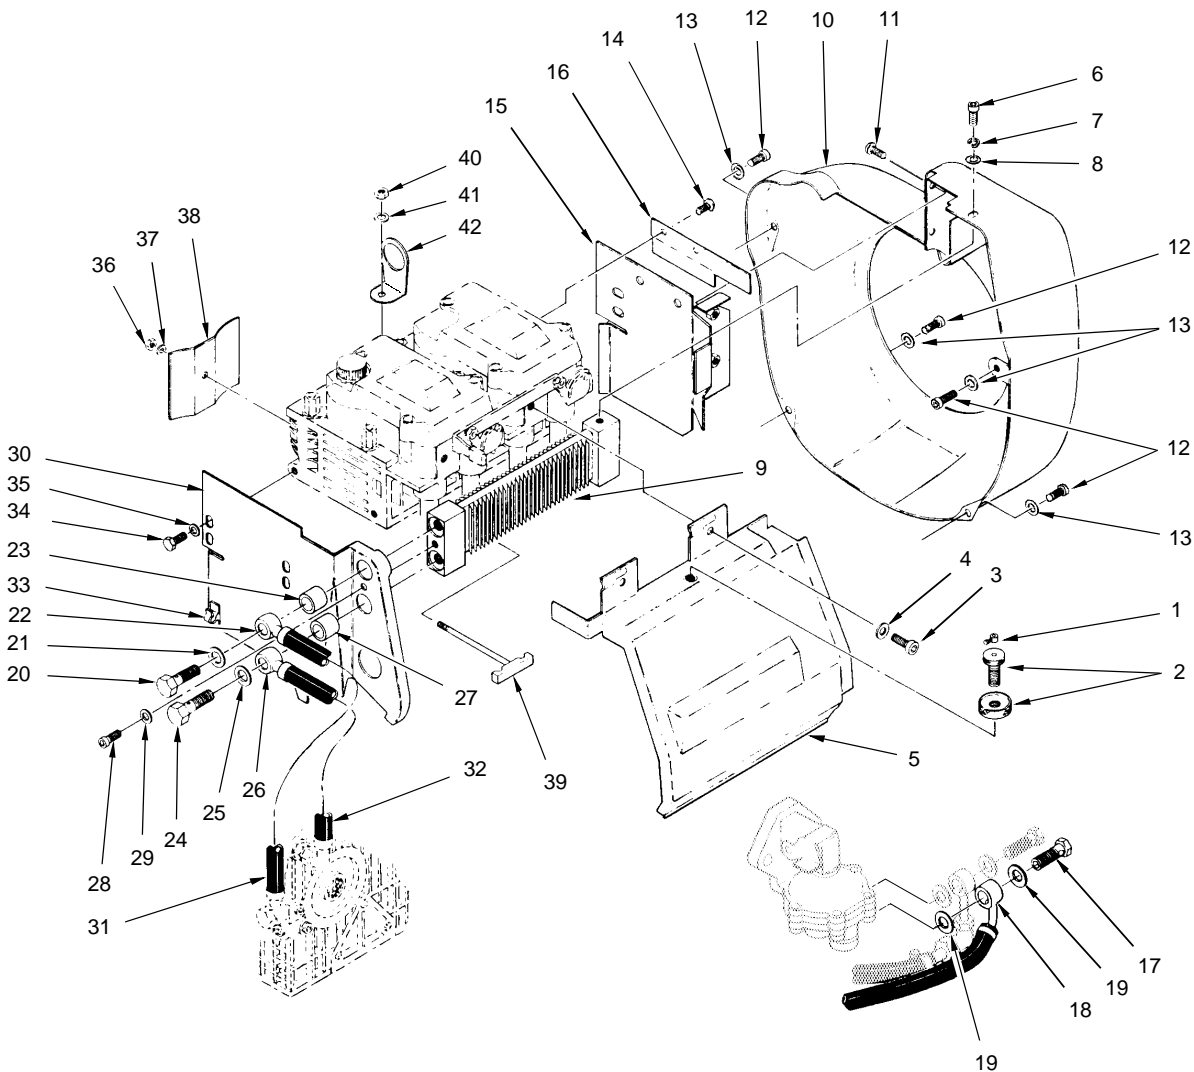

Figure 4. Shroud, Cylinder Casing and Gates Removal
**REMOVE ENGINE SHROUD, CYLINDER CASING AND GATES.** (Refer to figure 4.)**INITIAL SET-UP:****Tools:**